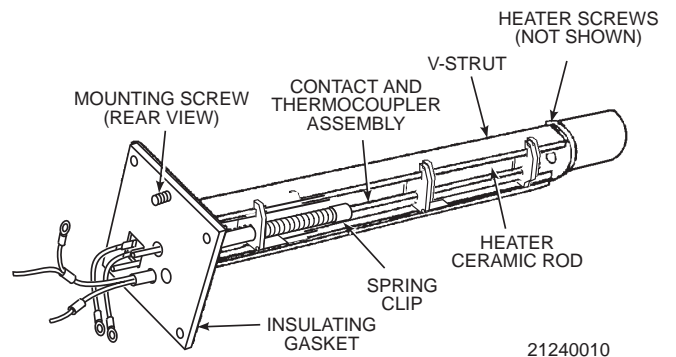

Figure 3-5. Inner Probe Replacement (Heater, V-Strut, and Backplate Assembly)
- d. Use a pencil to mark locations of spring clip on ceramic rod, Figure 3-5.